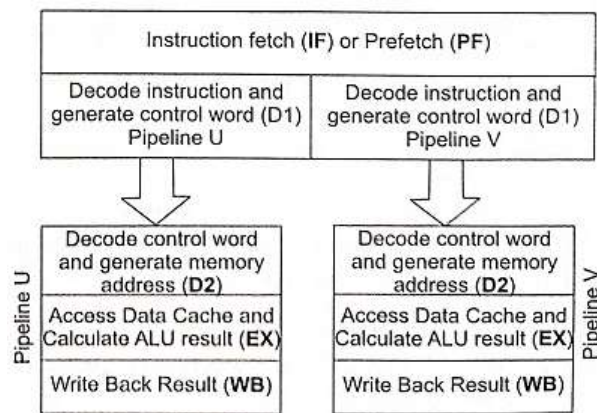

Fig.6.12: Superscalar processor organization in Pentium
Control Unit (CU): The control unit controls the five-stage integer pipelines U and V, and the eight-stage floating-point unit. In the architecture of Pentium Processor, the integer pipelines are used for all instructions which does not involve any floating-point operations. Therefore, the Pentium can transmit two integer instructions in the same clock cycle and performance of the processor is improved. Such an execution comes under **superscalar architecture**, Figure 6.12 shows the superscalar organization of the Pentium processor.